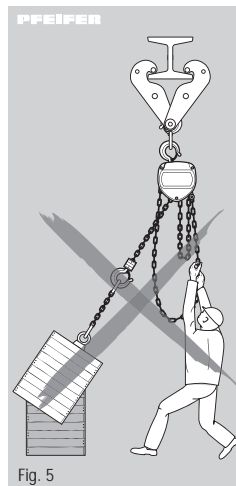

Fig. 5
- Parallel shear pull, i.e. lateral loading on the support bolts and side plates due to incorrect attachment of a load is forbidden (Fig. 5). Always lift in a straight line between the suspension point and the load attachment point.